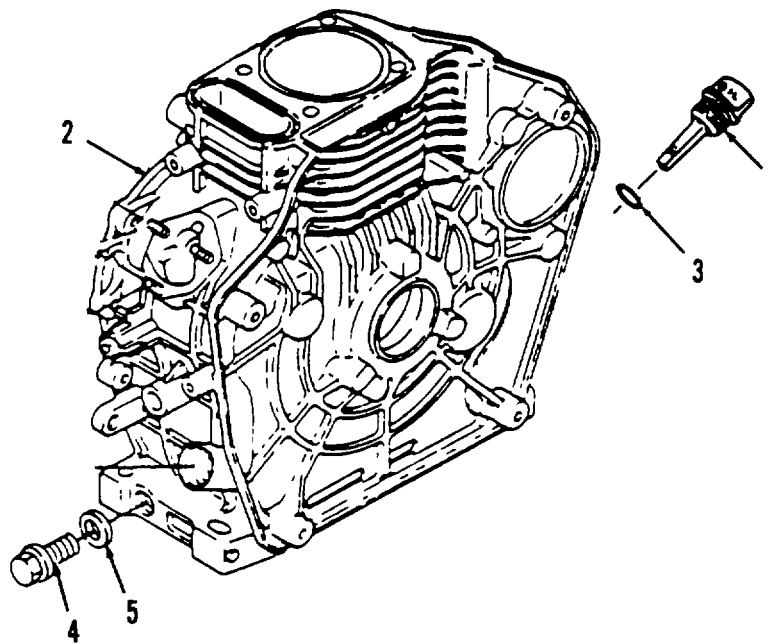

Figure 4-29. Oil Cap/Gauge Repair and Replacement.
a. Removal. (Refer to Figure 4-29).
- (1) Remove oil cap/gauge (1) from engine crankcase (2).
- (2) Remove O-ring (3) from oil cap/gauge (1). Discard O-ring.
- (3) Remove plug (4) and washer (5).